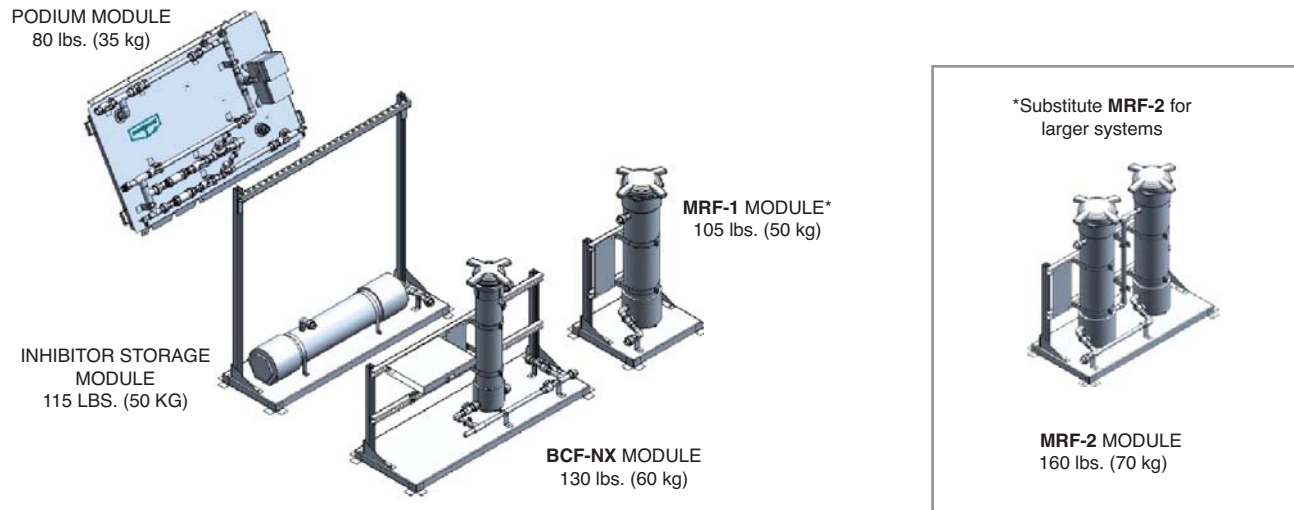

Figure 3 – MRF System Overview of Modules
2.3 The **MRF** system consists of four modules: **BCF-NX**, Podium, Podium Support, and **MRF**. See Figure 3.